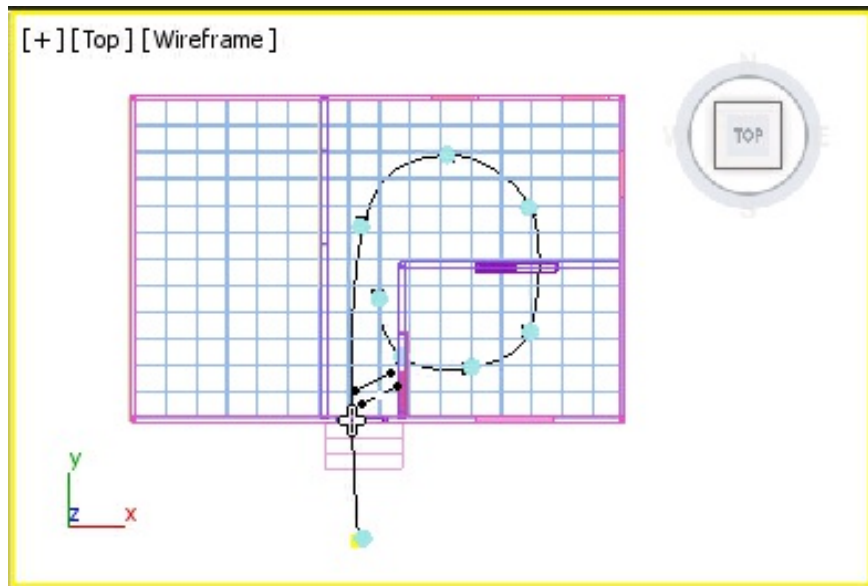

Figure 14-71 A new vertex added to the path
11. Add a new vertex where the path enters the building by clicking on the line at that point; a new vertex appears on the path, as shown in Figure 14-71.